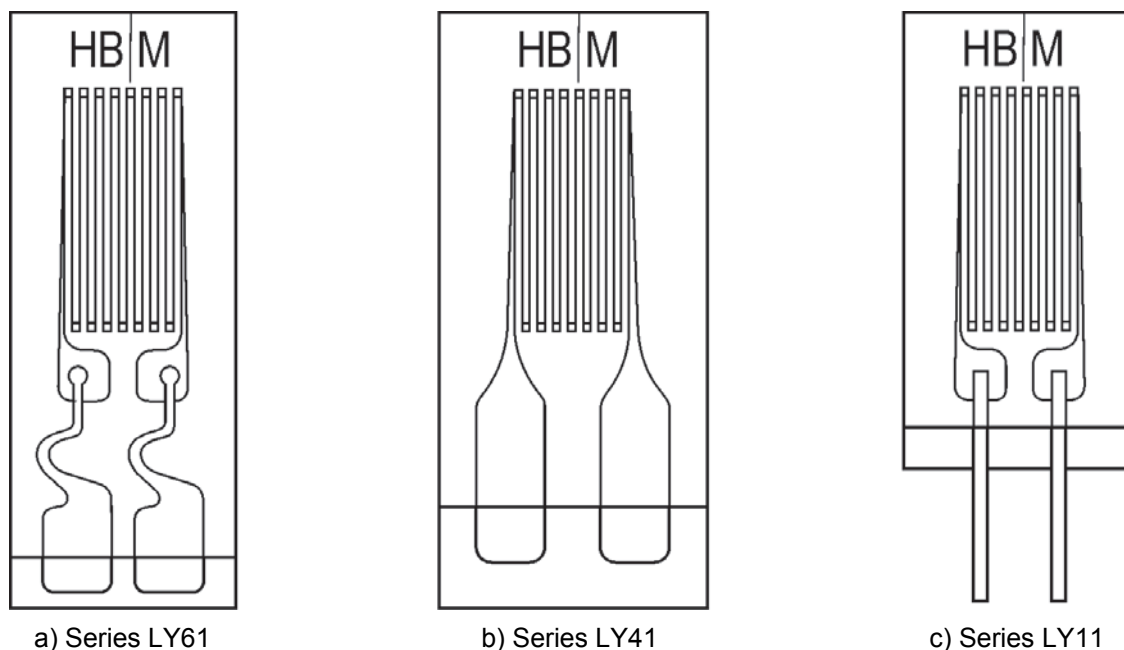
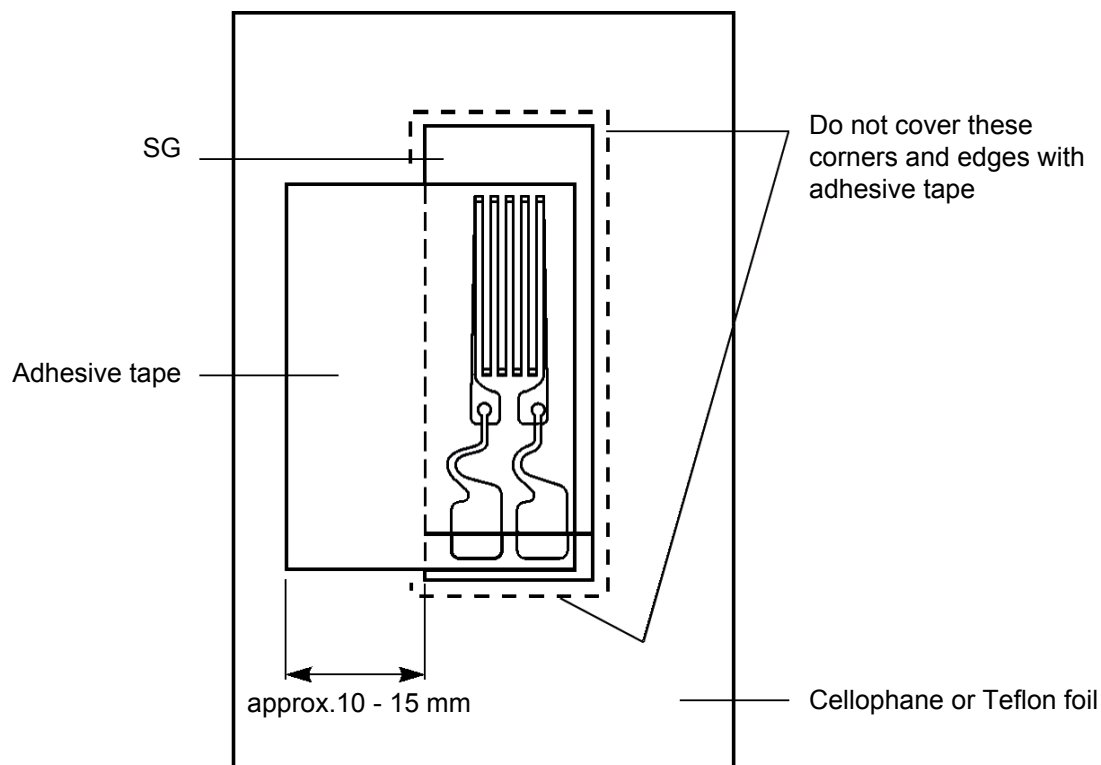

Fig. 2-4: Types of SG connections
Fig. 2-5: Auxiliary technique 1 for SG installation
- LY61 series SG (Fig. 2-4, sketch a) have integrated, mechanically decoupled solder terminals to which the measurement leads can be soldered. Thin measurement leads can also be soldered directly to LY31 series SG (Fig. 2-4, sketch b). However, in most cases separate solder terminals are recommended as is the case in designs with ribbon leads (Fig. 2-4, sketch c). This facilitates the proper solder connection and ensures that the measurement leads are not subject to tension.
Some SG, as depicted in Fig. 2-4 may have an oxide layer on the nickel-coated solder terminals, which could make subsequent soldering of the leads difficult. It is therefore advisable to remove this oxide layer with a glass fibre eraser. Apply a strip of adhesive tape as per Fig. 2-5 to the SG as shown in Fig. 2-4,
Prepare LY41 series SG (Fig. 2-4, sketch b) in the same way if thin measurement leads are to be soldered on directly. Auxiliary technique 2 is recommended for thicker measurement cables.
Combine SG as shown in Fig. 2-4, sketch c (if suitable, also sketch b) with an appropriate solder terminal (see Note 2.4-9) to which connection leads can be firmly fixed.